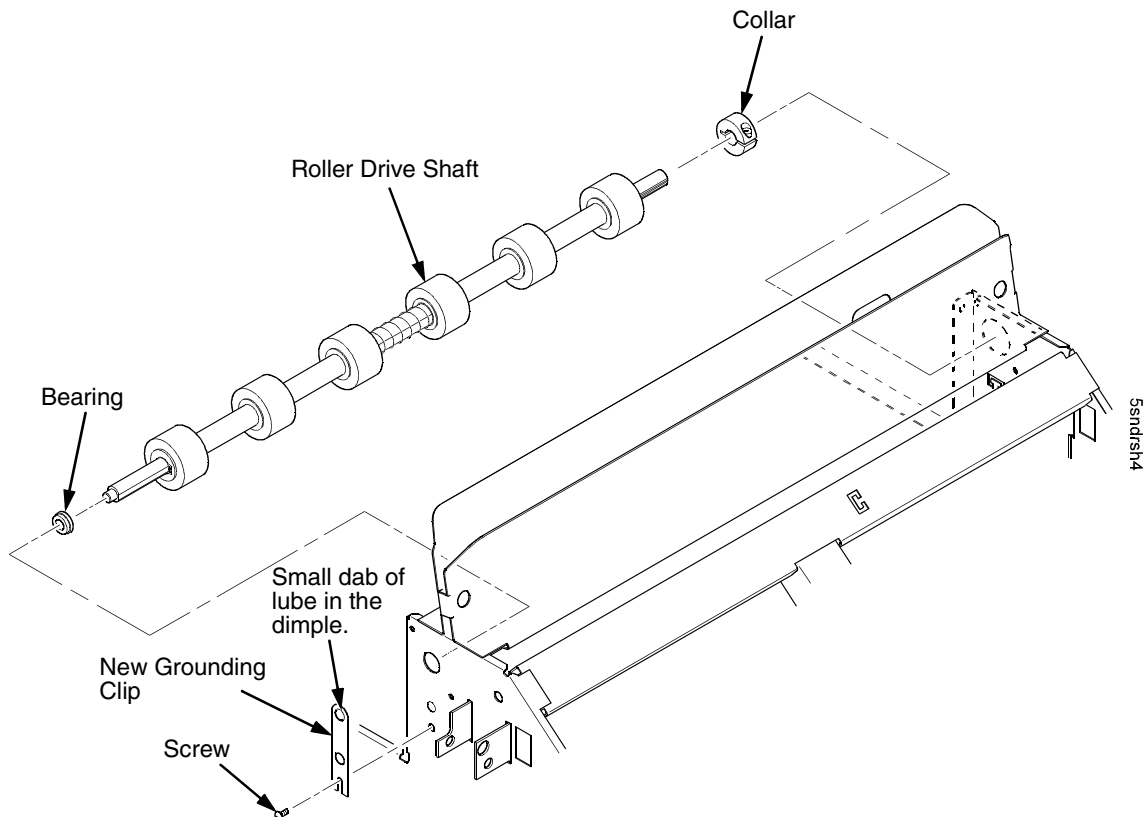

Figure 101. Roller Drive Shaft
9. Remove the roller drive shaft, taking care to retain the bearing at the left end of the shaft and the collar at the right end of the shaft. (Figure 101.)
10. Remove the bearing and collar from the old roller drive shaft and retain these items for installation on the new roller drive shaft. (Figure 101.)
11. Using an M-2 Allen wrench, remove the screw securing the grounding clip to the left side of the elevator. Discard the old grounding clip, but retain the screw so you can install a new grounding clip when you install the new roller driver shaft. (Figure 101.)
14. Apply a small dab of bearing lubricant to the dimple in the new grounding clip. Make sure this is the only area containing lubricant. (Figure 101.)